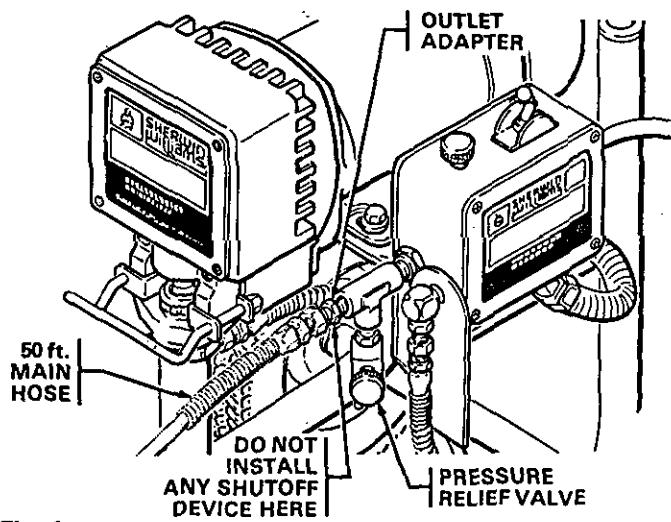

Fig 1
1. Connect Hose and Gun (Refer to Fig 1.)
- a. Close the pressure relief valve. See Fig 1.